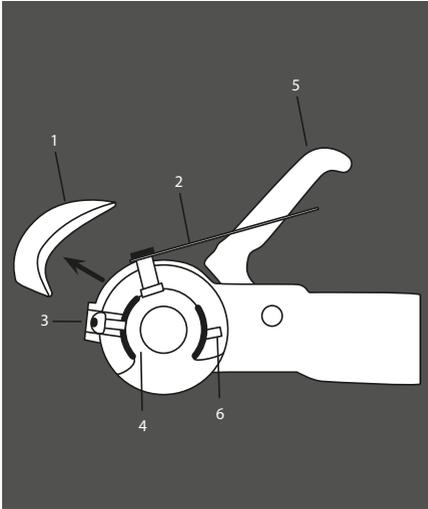

Figure 20 Friction pad revealed
2. Remove the soft dock (pull up & off), (Fig 20 - Item 1).
3. Press the safety indicator outwards and secure with SW14 hex. spanner (not included), (Fig 20 - Item 2).
4. Remove cheese-head screw (Fig 20 - Item 3 & Fig 18), using special torx tool.
5. Press friction lining recess (Fig 20 - Item 4) inwards and pull down and out.
6. Open coupling handle (Fig 20 - Item 5).
7. Remove countersunk head cap screw using special torx tool (Fig 20 - Item 6 & Fig 19).
9. Fit new friction pads in reverse. Tighten screws to 5Nm (Fig 20 Items 3&6)